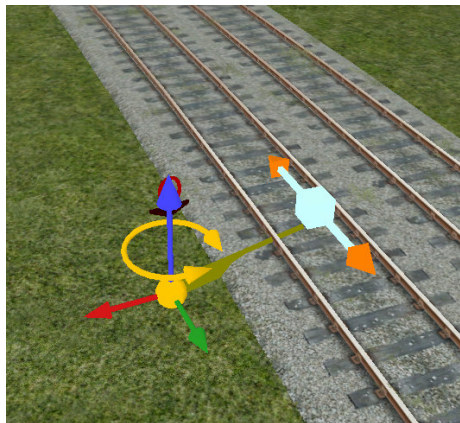

Figure 19 Track Link placement
- 7) You will now be presented with a track link at the mouse cursor. Position this Link in the "four foot" of the track at the start of the speed restriction, but make sure that the link is fully on the limited speed track. Release the mouse and the speed limit sign should now display the relevant speed(s). (Fig. 19 & 20).